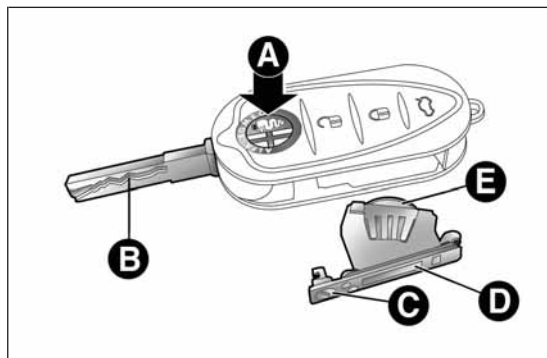

fig. 18
- press button A fig. 18 and move the metal insert B to opening position; turn screw C to  using a fine bit screwdriver;